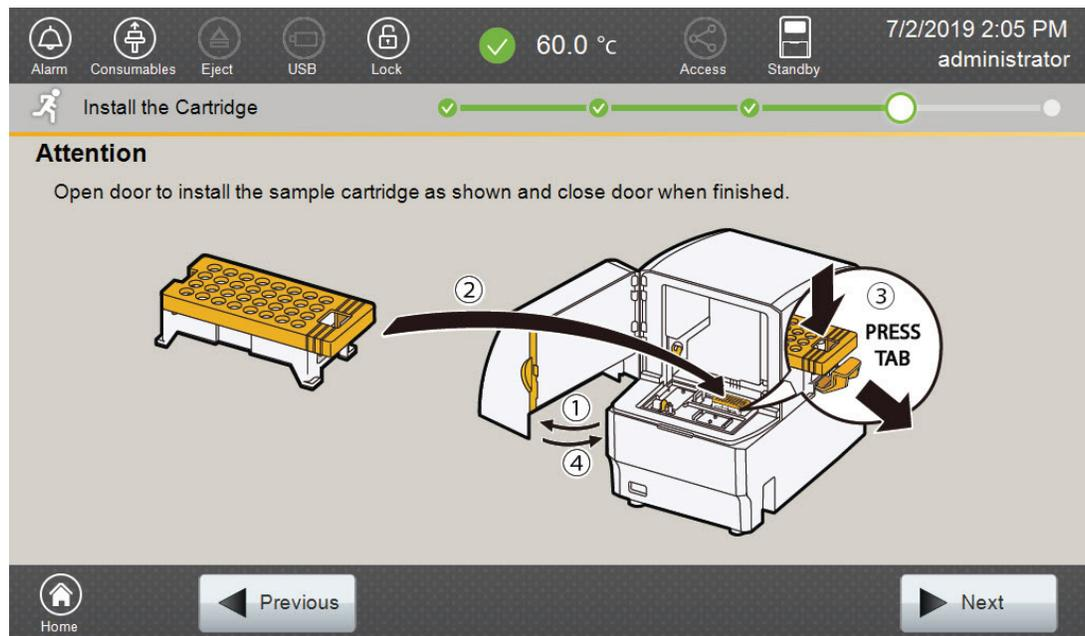

Figure 20. 'Install the Cartridge' screen.
2. Open the instrument door, and then place the sample cartridge on the autosampler following the instructions displayed on the 'Install the Cartridge' screen (Figure 20). Press down on the yellow tab on the autosampler deck that locks the sample cartridge in place before placing sample cartridge into position. Release the tab to lock the sample cartridge in place on the autosampler deck.